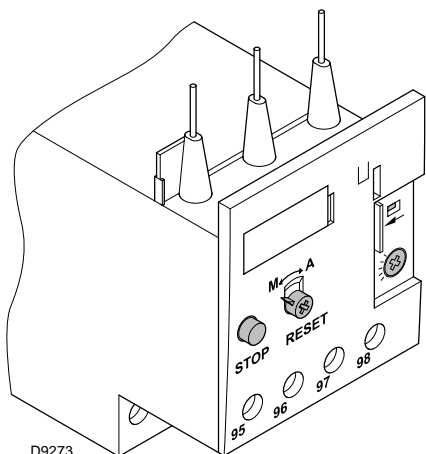

Fig. 36
The electro-mechanical thermal relay (Fig. 36) is used to avoid damage to the motor owing to a strong increase in absorption or the lack of a phase.
- To reset, in the case of an intervention of the thermal relay, press the button "RESET" (Fig. 36).
- The button "STOP" (Fig. 36) opens the NC (95-96) contact and stops the motor.